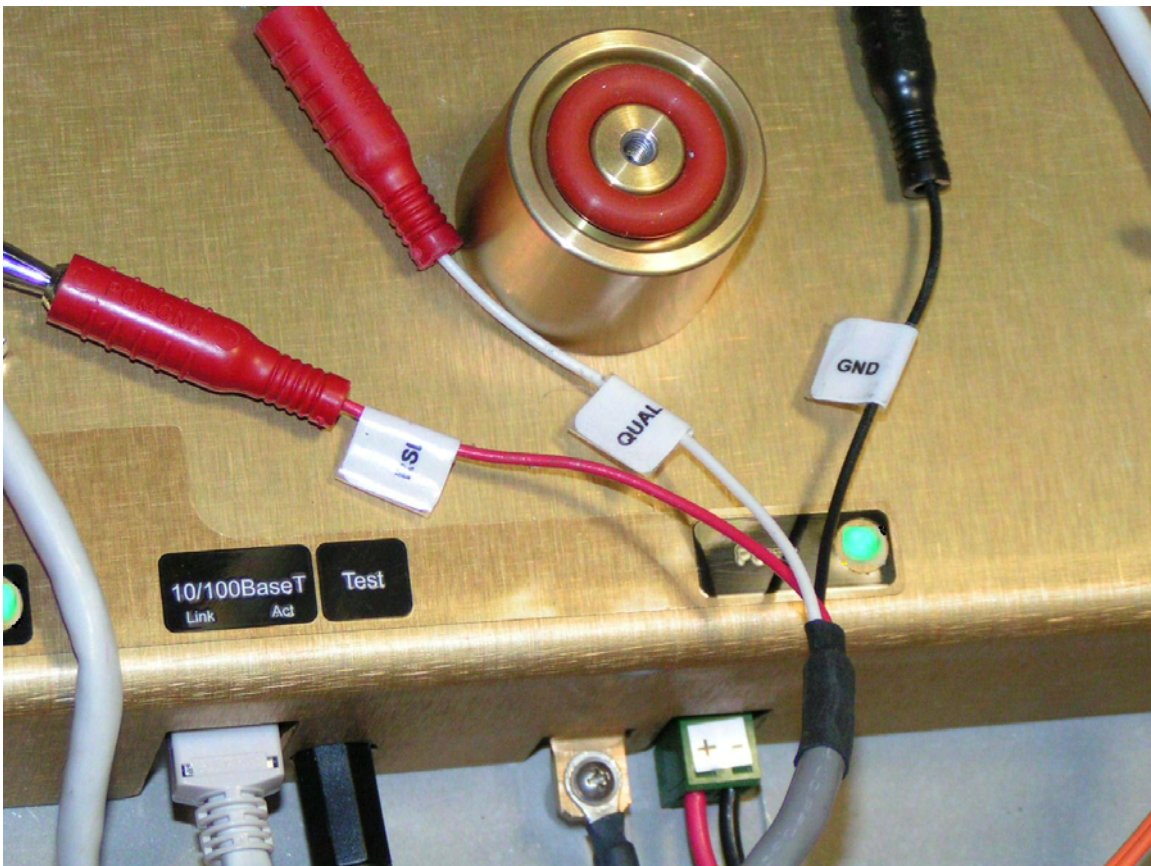

Figure 3-15: Top view of test cable provided to check Link Quality & Receive Signal level
If the 10/100BaseT port is permanently connected to other network equipment (not normally required), it should be connected using Cat5e cables rated for the outdoor and/or indoor environments where the cables will be run. It is essential that the cabling be connected to the radio unit through an Ethernet-rated surge suppressor inside of the plastic back cover of the unit, and a surge suppressor should also be used at the point where the cable enters a building or is connected to other outdoor equipment that does not already contain surge suppression hardware. BridgeWave recommends the **Dehn model DPA-M-CAT6- RJ45S-48** surge suppressor be used. See figure 3-15 below.
- i) See Figure 3-15 below to help guide you in obtaining the highest RSL voltage reading.
- h) If you are have not obtained the “target” RSL voltage for the given path distance (or you want to further improve it), you will need to re-align the antenna, go back to the original site you started with and restart steps (a-f) and re-align again. See Figure 3-15 below of a conceptual illustration of and antenna beam to keep in mind while you perform a re-alignment.